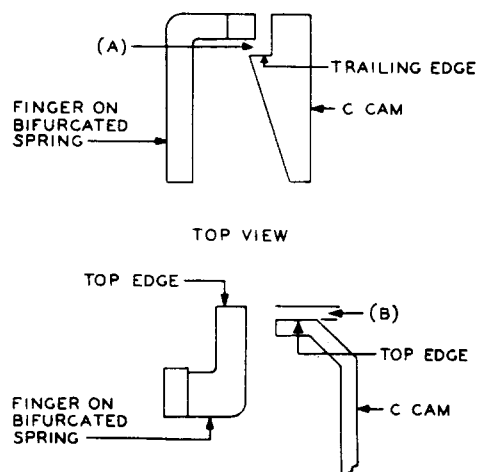

Fig. 17 - "C" Cam Position
- (a) Fig. 17(A) - With the armature electrically operated and the timer gear normal, the trailing edge of the "C" cam shall clear the C spring finger.
- (b) Fig. 17(B) - The top edge of the C spring finger shall be $1/32$ inch ($\pm 1/32$ inch) above the top edge of the "C" cam.